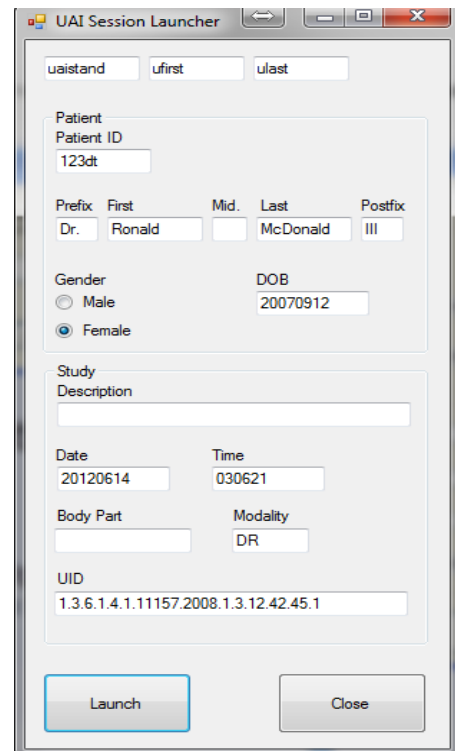

Figure 2
2. Left click *Launch* on the UAI Session Launcher – **Figure 2**